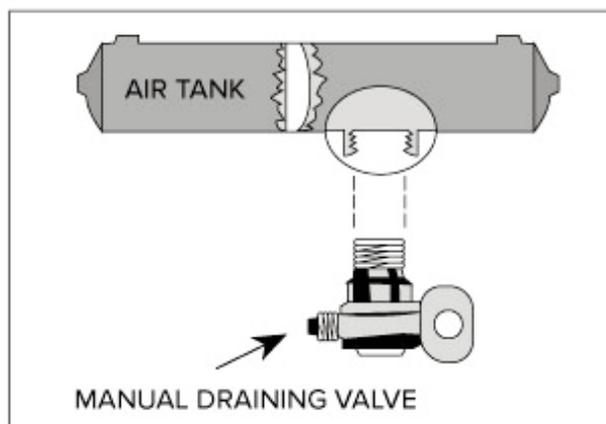

Figure 5.1
- Manually operated by turning a quarter turn or by pulling a cable. You must drain the tanks yourself at the end of each day of driving. See *Figure 5.1*.